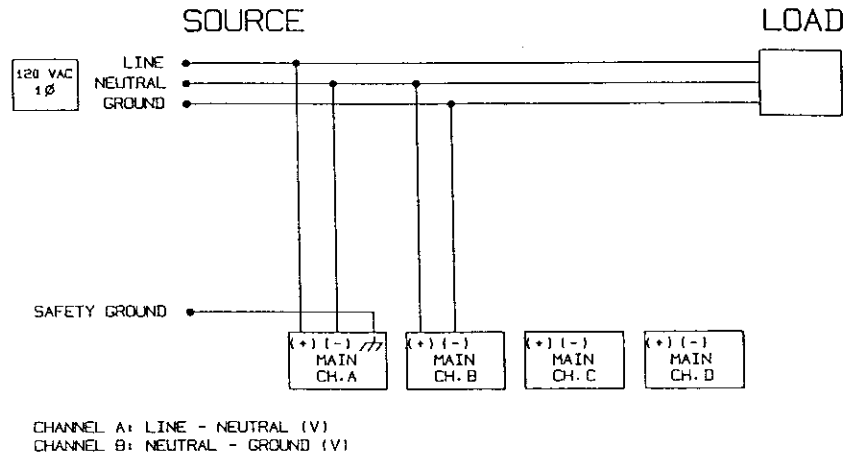
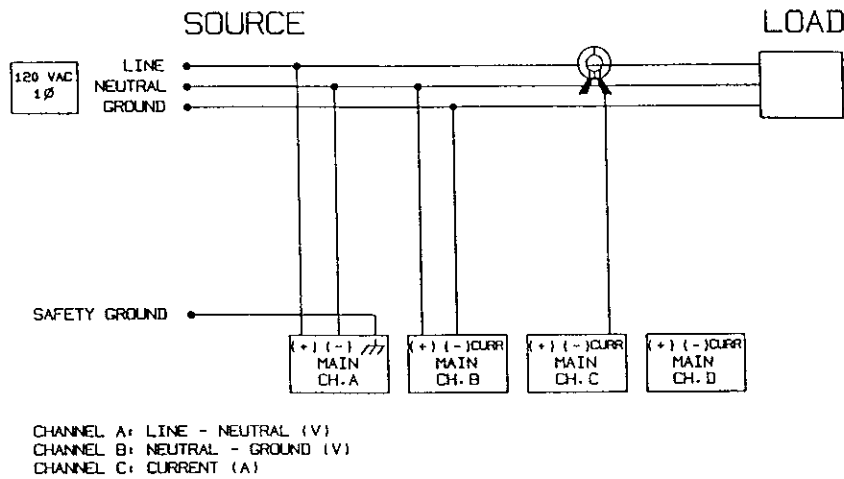

Figure 2-2. 120 VAC Single-Phase Circuit with Neutral-to-Ground Connection
Figure 2-3. 120 VAC Single-Phase Circuit with Neutral to Ground and Phase Current Connections
4. Connect the applicable voltage lines in your Measurement Cable Kit (114012-G2) to the "+" and "-" input jacks. Refer to the illustrations under subsection 2.4.5.3 (figures 2-2 through 2-10) for the connection guidelines.
- The 658 can monitor Line-to-Neutral and Neutral-to-Ground voltage in a 120 VAC single-phase system (illustrated in figure 2-2). This application requires two Main channels (A and B in the illustration). In such an application, one of the two remaining channels could be used to monitor current (illustrated in figure 2-3 using channel C).